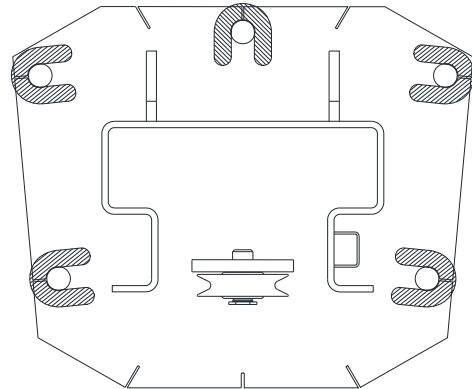

Fig 5 - Column Shimming
- 21) Check Idler Column shimming. Use additional shims (see **Fig 5**) to remove any gaps that may have been created while installing Overhead. Repeat steps 8-12 for the Idler Column anchoring.